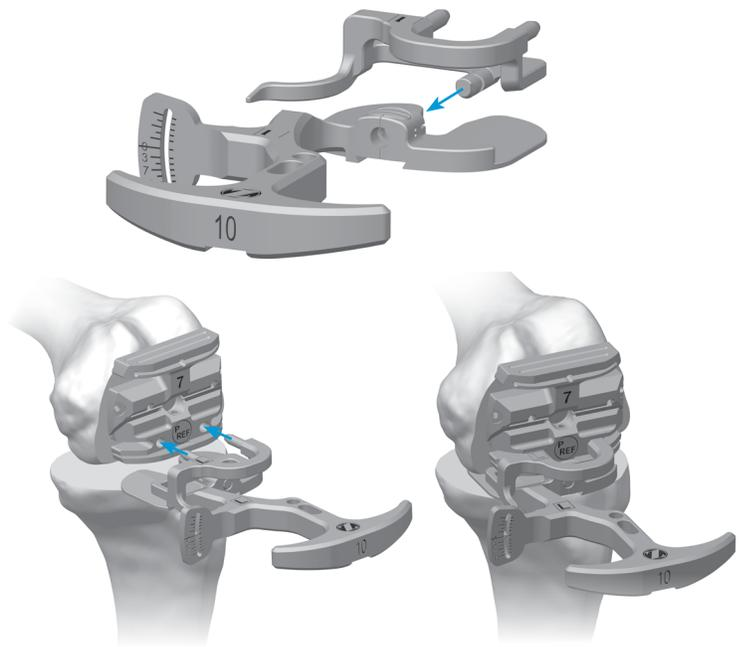

Fig. 24 Zimmer FuZion 4-in-1 Cut Guide Adapter
- Prior to resection of the posterior condyles, attach the *Zimmer FuZion* 4-in-1 Cut Guide Adapter to the *Zimmer FuZion* Spacer Block and insert into the posterior holes of the *Persona* Posterior Referencing 4-in-1 Cut Guide (Fig. 24).